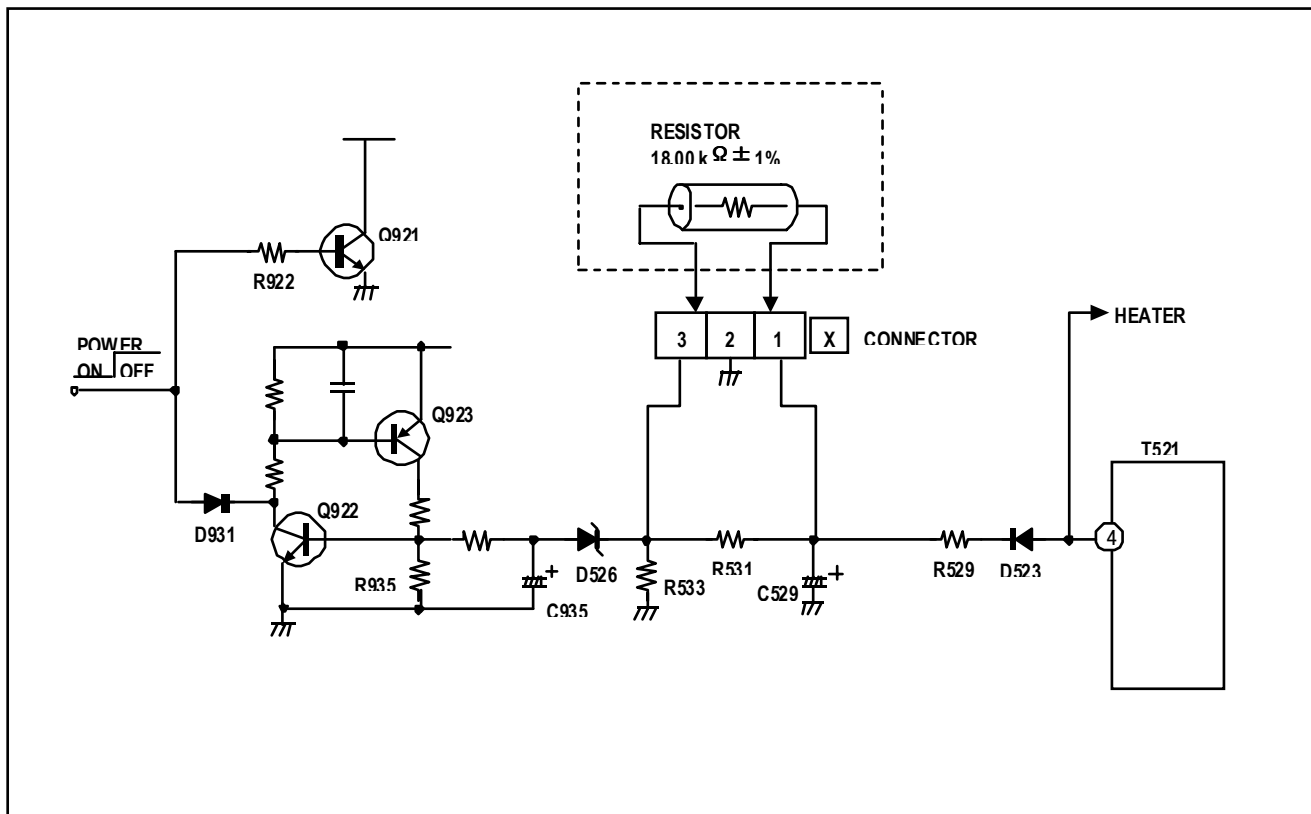

Fig. 1
After repairing the high voltage hold down circuit shown in Fig. 1.
- (1) Turn the power switch to on.
- (2) As shown in Fig. 1, set the resistor between ☐X connector ☐1 and ☐3.
- (3) Make sure that the screen picture disappears.
- (4) Temporarily unplug the power plug.
- (5) Remove the resistor replaced ☐X connector ☐1 and ☐3.
- (6) Again plug the power plug, make sure that the normal picture is displayed on the screen.